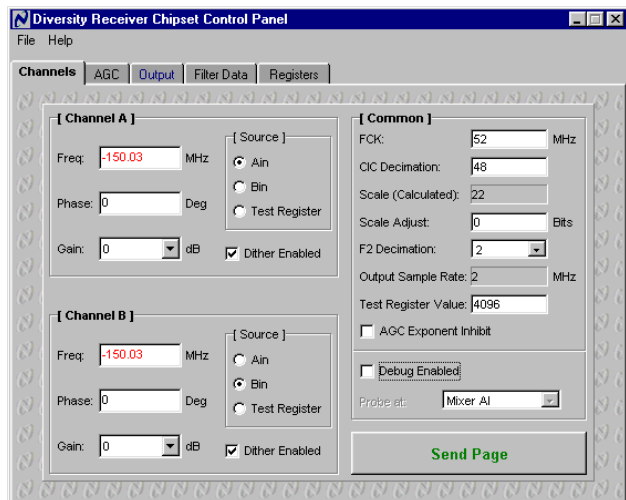

Figure 14 Screen configuration for step 14.
14. On the **Channels** page of the DRCS Control Panel, enter -150.03 for **Freq** of **Channel A**, uncheck **Debug Enabled**. The screen should appear as in Figure 14. Click on the **Send Page** button.